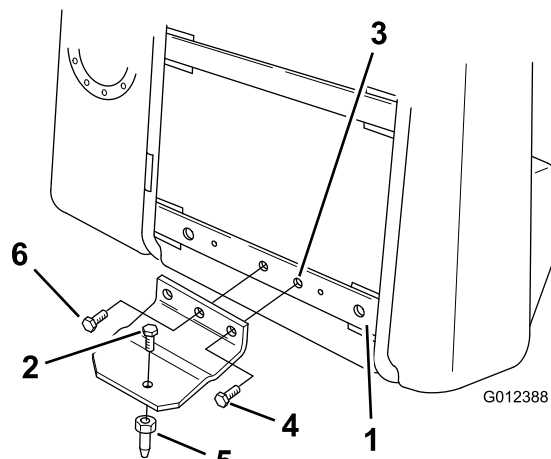

Figure 4
- Align the holes in the hitch plate tab with the alignment hole on the mounting frame (Figure 4).
- Secure the hitch plate to the mounting frame using 2 bolts (5/16 x 1 inch) and 2 locknuts (5/16 inch—18) (Figure 4).
- Secure the hitch pin in the hole in the hitch plate using a bolt (5/16 x 5/8 inch) (Figure 4).